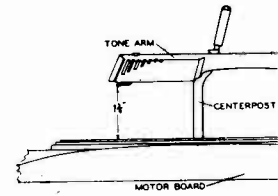

Figure 4
2. Turn the adjustment screw "A" until the sapphire is  $1\frac{1}{8}$  inches above the turntable. This adjustment will permit the pickup to land and play one record placed on the turntable. At the same time it prevents the tone arm from touching the record resting on the centerpost while the mechanism is going through cycle. (If this height cannot be reached by the adjustment screw, take up on the cotter pin.) (Figures 4 and 5.)